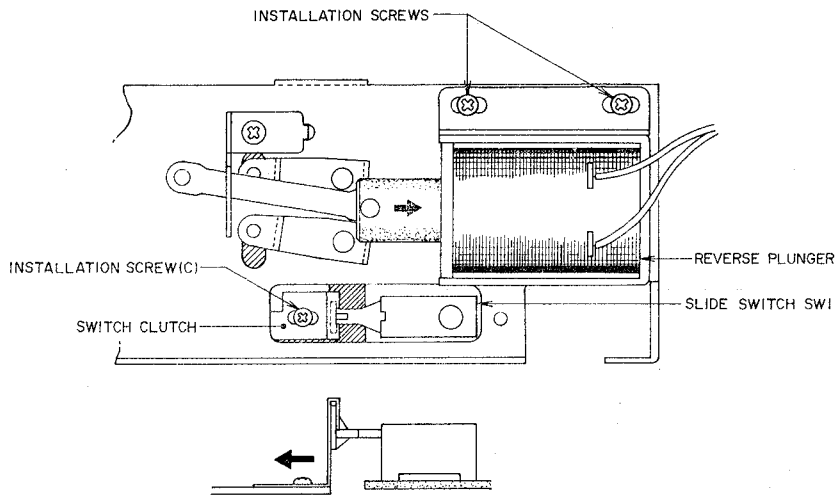

Fig. 8
Adjustment (Refer to Figs. 8, 9)
3. Slide Switch Operating Position Adjustment (Refer to Figs. 8, 10)
- a) Put into reverse mode. Loosen installation screw(c) in Fig. 8 and move the switch clutch in the direction of the arrows and having pulled the slide switch SW1 out to its fullest extent, tighten installation screw(c).